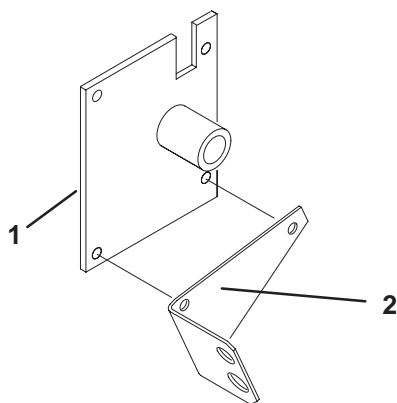

Figure 9
9. Secure top of right hopper mounting bracket to right side of machine with (2) 3/8-16 x 1" lg. capscrews and 3/8" lockwashers (Fig. 9). Notch in bracket to fit around hood latch.
10. Secure bottom of bracket and coupler bracket to frame with (2) 3/8-16 x 1" lg. capscrews and locknuts (Fig. 9).